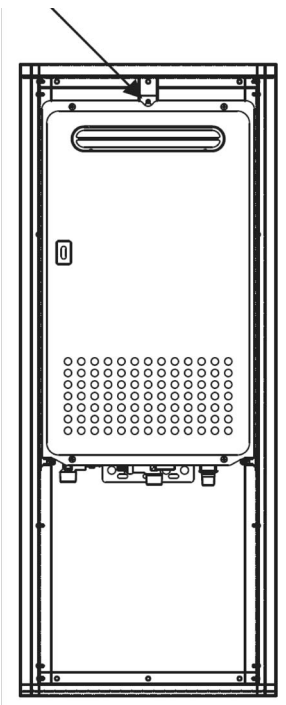

Fig. 3 Location of top mounting bracket
- ▶ Second, insert the water heater into the box by sliding the top heater bracket over the previously installed mounting screw as shown in Fig. 3.